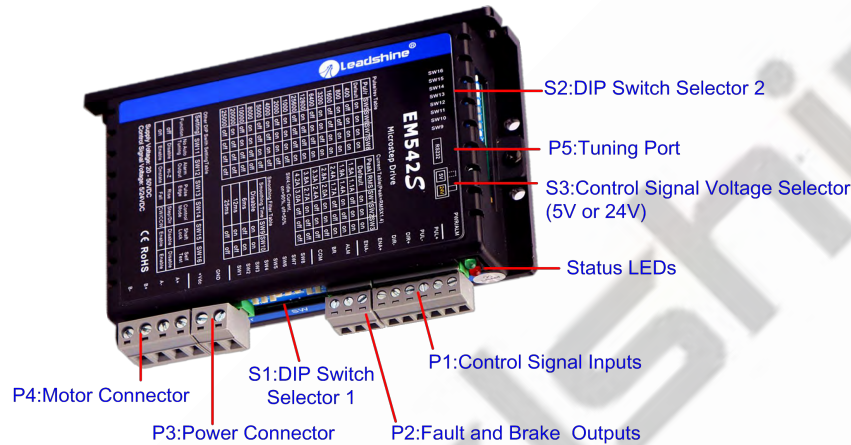

Figure 2 Connectors, DIP switches, and LED locations
PUL+ (CW+)	Pulse and Direction Connection: (1) Optically isolated, high level 4.5-5V or 24V, low voltage 0-0.5V (2) Maximum 200 KHz input frequency, 500KHz customized model is available (3) The width of PUL signal is at least 2.5μs, duty cycle is recommended 50% (4) Single pulse (step & direction) or double pulse (CW/CCW) is set by DIP Switch SW14 (5) DIR signal requires advance PUL signal minimum 5 μs in single pulse mode (6) The activated edge of PUL and DIR is set by DIP Switch SW13 (7) The factory setting of control signal voltage is 24V, must need to set S3 (figure 2) if it is 5V Enable Connection: Optional. (1) Optically isolated, differential. (2) Disable the drive by 4.5-5.0V or 24V input connection; enable the drive by 0-0.5V connection(default no connection) (3) ENA signal requires advance DIR signal minimum 5μs in single pulse mode (4) The default control signal voltage is 24V, to set S3 (figure 2) if it is 5V (5) Enable time to be at least 200ms
The EM542S can accept differential or single-ended control signals (pulse, direction, and enable) in open-collector or PNP connection through the P1 connector (figure 2). It is recommend to add an EMI line filter between the power supply and the drive to increase noise immunity for the drive in interference environments.
The first 8-bit is located on the side (DIP switch selector 1 in Figure 2) and used to configure settings of micro step resolution, output current, and motor standstill current as shown below, the factory setting of SW1-SW8 is **ON, ON, ON, OFF, OFF, OFF, ON, ON**.
The second 8-bit DIP switch is located on the top (DIP switch selector 2 in figure 2), and used to configure settings of control command filtering time, motor auto-configuration, fault output impedance, pulse active edge, control mode, lock shaft, and self-test as shown below, the factory setting of SW1-SW8 is **OFF, OFF, OFF, OFF, OFF, OFF, OFF, OFF**.
The Third 1-bit selector is located on the top (DIP switch selector 3 in figure 2), used to configure the voltage of control signals. For the safety of optically coupled, the factory setting is 24V, which no need to connect 2K resistors like the old drives, making it easier to use. When the voltage of the control signal is 5V, the S3 must be set to 5V, otherwise, the motor won't work.